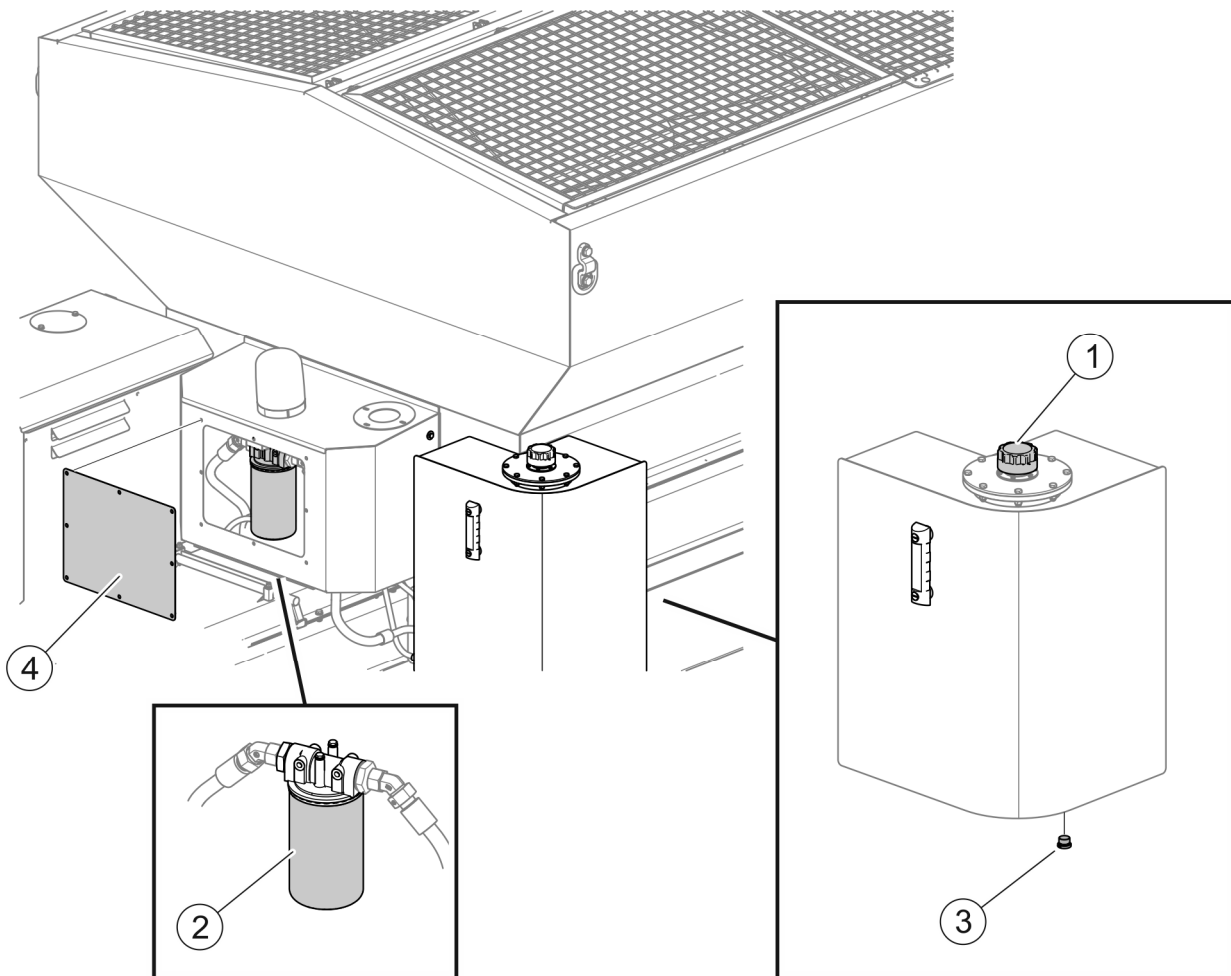

FIGURE 5.3 Change of oil and oil filter
- Unscrew filler plug (1) and oil drain plug (3) (FIGURE 5.3).
- Unscrew contaminated filter cartridge (2).
Cartridge of oil filter (FIGURE 5.3) should be replaced every 500 engine working hours or once a year.